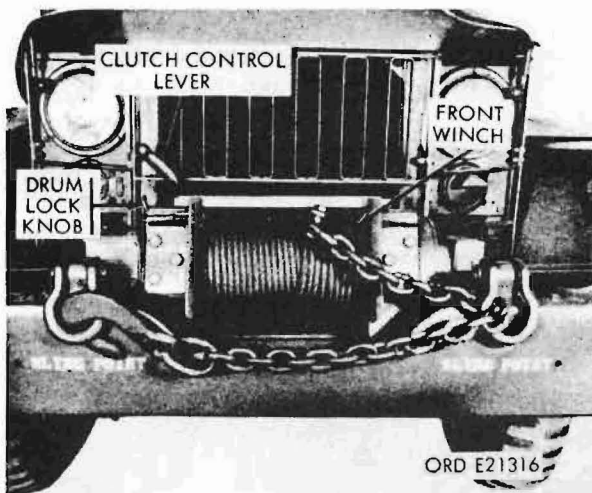

Figure 43. Front winch
(28) Front-winch clutch control lever (fig. 43).
(29) Front-winch drum lock knob (fig. 43).